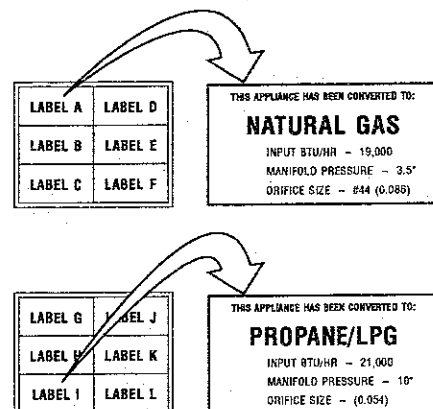

Figure 37
Step 9. Attach conversion kit label to the rating plate on the appliance; Label F for units converted to natural gas or Label L for units converted to propane (Figure 37).